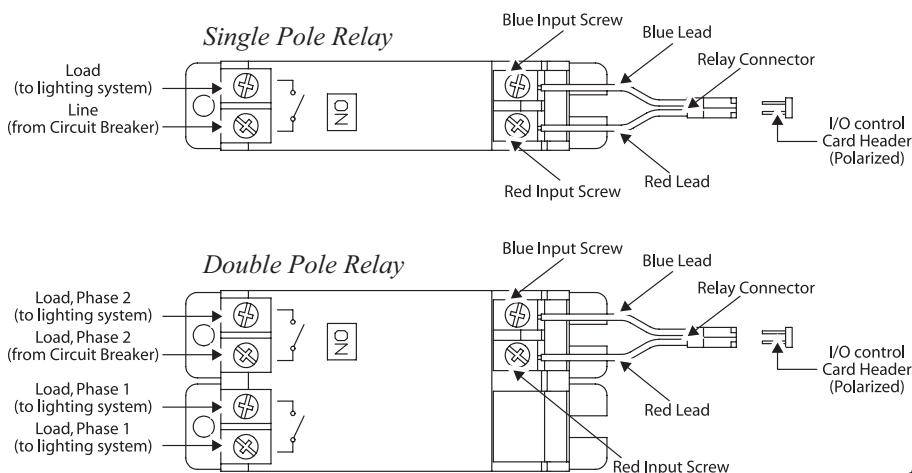

Figure 1: Relay wiring diagrams
5. Connect relay input and output as shown in figure 1. Connect input to panel I/O control card using relay connector cable. Attach red lead to red screw and blue wire to blue screw. Slide connector on to header pins of I/O control card. Connect line and load leads to relay output.